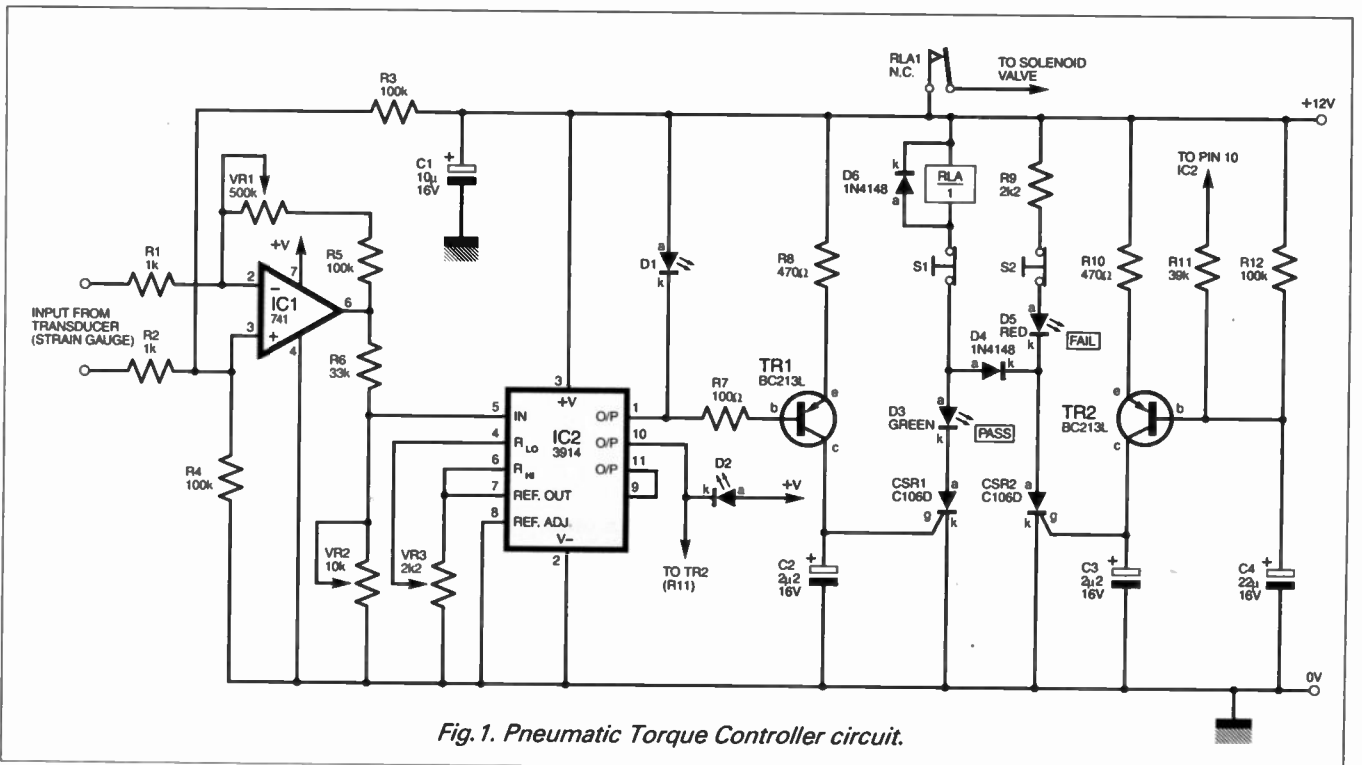

Fig. 1. Pneumatic Torque Controller circuit.
**T**HE purpose of the circuit of Fig. 1 was to produce an electronic shut-off for an air tool within specified torque limits. Commercially built units are available but prices are extremely high whereas the circuit shown can be produced for approximately £20.